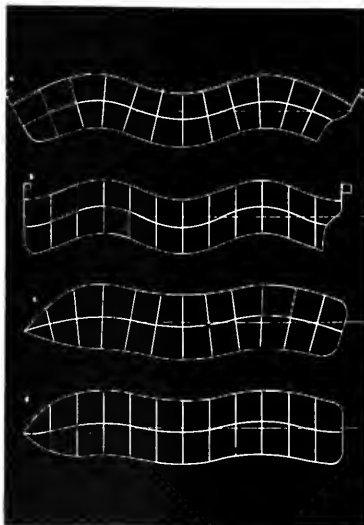

Fig. 3
(5) The third mode or four noded vibrational mode of the 600 ft. floating bar will occur at 540 vibrations per minute with the two pairs of nodal points located at 0.094 L and 0.364 L from the ends, corresponding to 56 and 218 feet respectively. See Fig. 3 (a). A five bladed propeller at 108 rpm or any machinery creating 540 vibrational impulses per minute will be able to excite this mode if located between nodes and having vertical components.
The horizontal or "snaking type" of transverse vibrations can also be calculated or estimated before the ship has been built. See Figs. 3 (c) and 3 (d). Mode for mode the horizontal vibrations are usually of somewhat higher frequency than the vertical. In general, the two types of vibration are not independent of each other, but a "coupling," due to asymmetry, ties them together with the torsional modes.